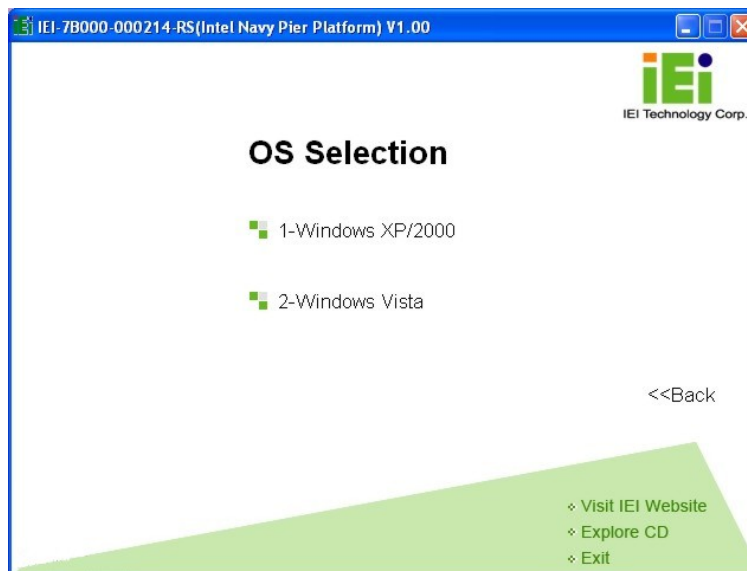

Figure 7-2: Select Operating System
Step 4: The screen in **Figure 7-2** appears.